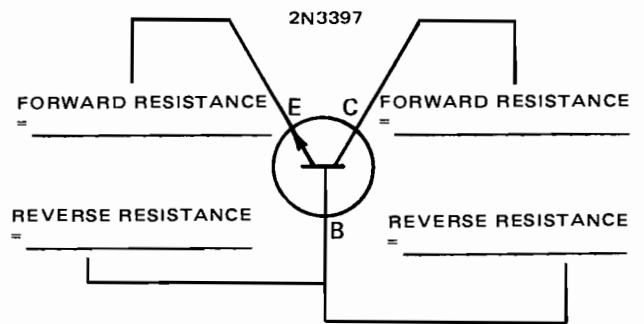

Fig. 13-3-5
7. Complete drawing of Fig. 13-3-5 by indicating resistance values across transistor elements. E-B resistance values were measured in steps 3 and 5.